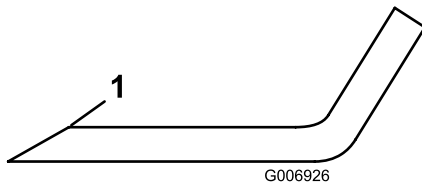

Figure 47
- Use a file to sharpen the cutting edge at both ends of each blade (Figure 47). Maintain the original angle. The blade retains its balance if you remove the same amount of material from both cutting edges.